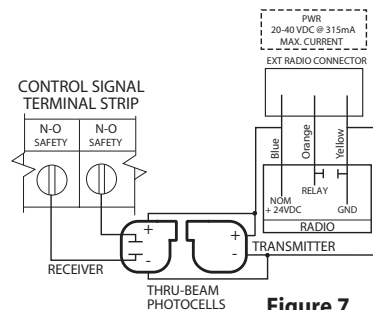

Figure 7
- 1) Nominal 24 Volt DC Commercial photocells with normally open contacts can be connected as shown in **Fig. 7.**